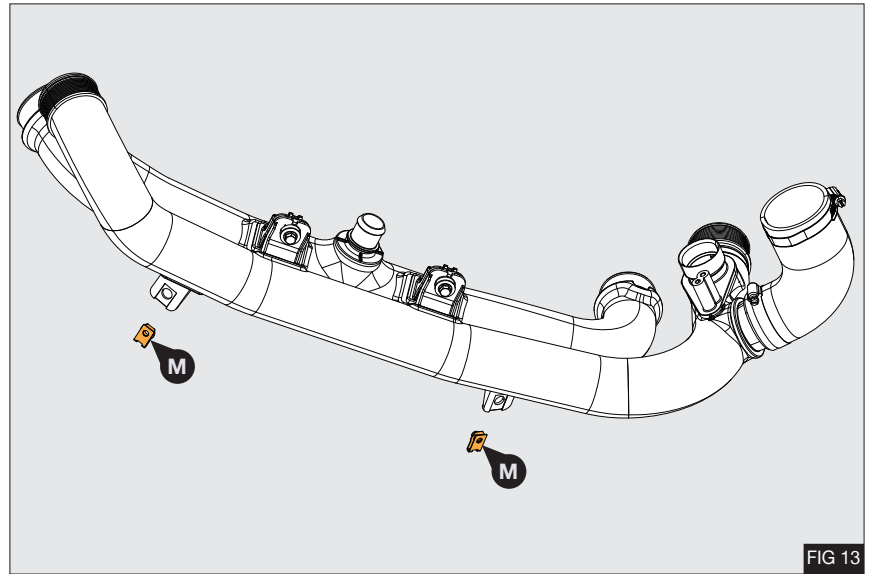

FIG 13
1. Remove and discard lug nuts (M) - Fig 13